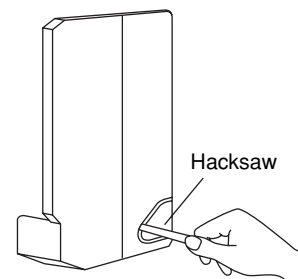

Fig. 3-50
- Cut out the L-shaped tubing outlet using a hacksaw. (Fig. 3-50)